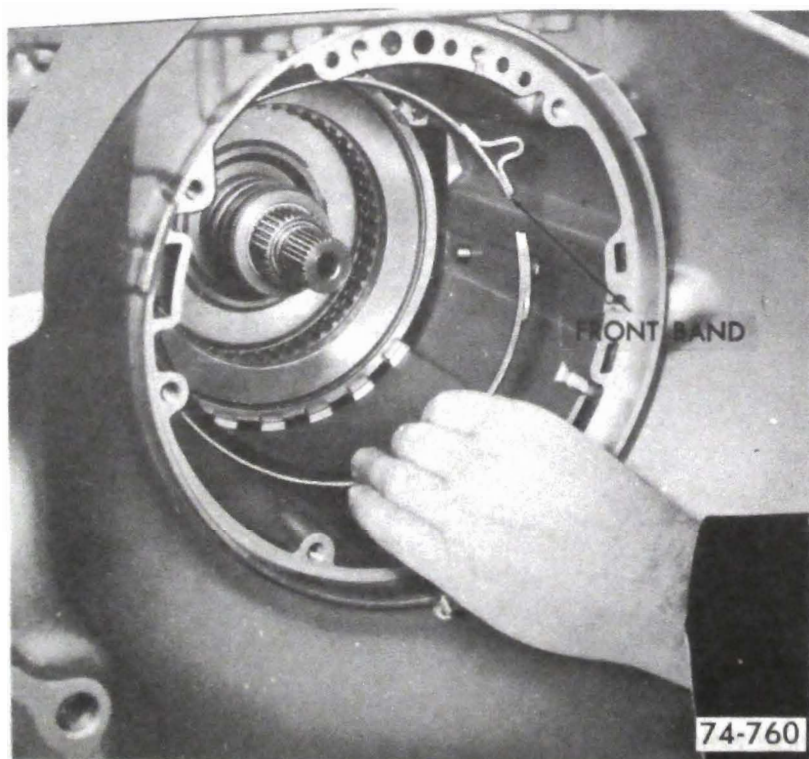

Figure 76-255
16. Install front band with band anchor hole placed over the band anchor pin and apply lug facing servo hole. See Figure 76-255.